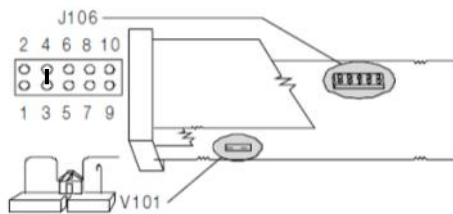

Figure 1.
1. Open V101 switch for Basic/advanced Configurations (Figure 1)
4. Close V101 switch after Basic/Advanced Configuration (Figure 1)